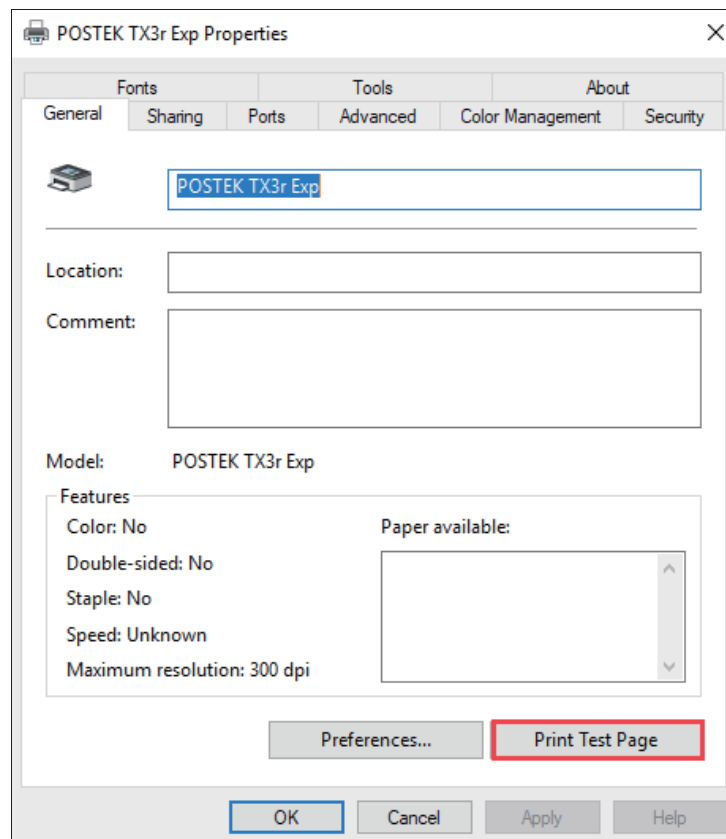

Figure 2-33 Print Test Page
9. Print a test page to see whether the printer is connected properly, as shown in Figure 2-33.